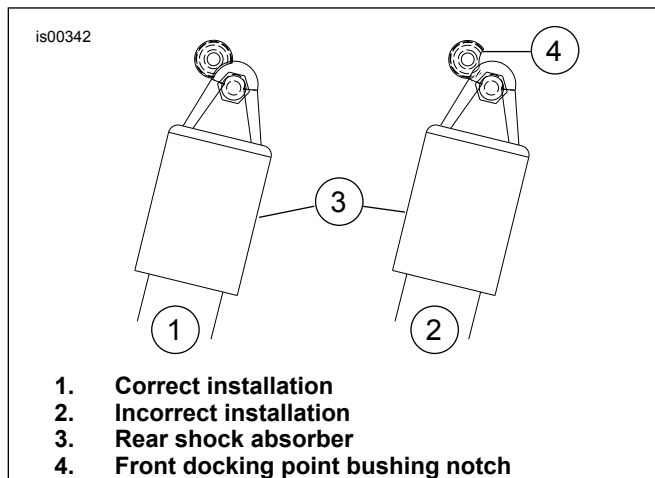

Figure 6. Position of Docking Point Notch
- d. Insert the screw through the smaller hole in bracket (K) and the fender support cover.
- e. Thread the screw into the weld nut in the fender support (or nut (O) for 1994-96 models).
- f. See Figure 6. Rotate bushing notch (4) into the "correct" position (1).